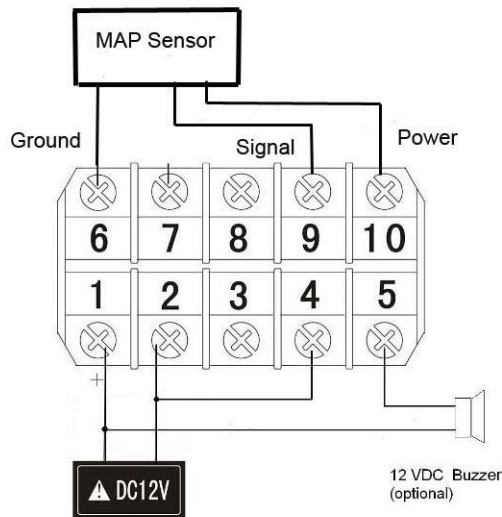

Fig 1. Wiring diagram.
1) Wiring the sensor as shown in Fig 1. Connecting power lead to terminal 10, signal lead to terminal 9, and ground lead to terminal 6. The 12V DC buzzer is optional.